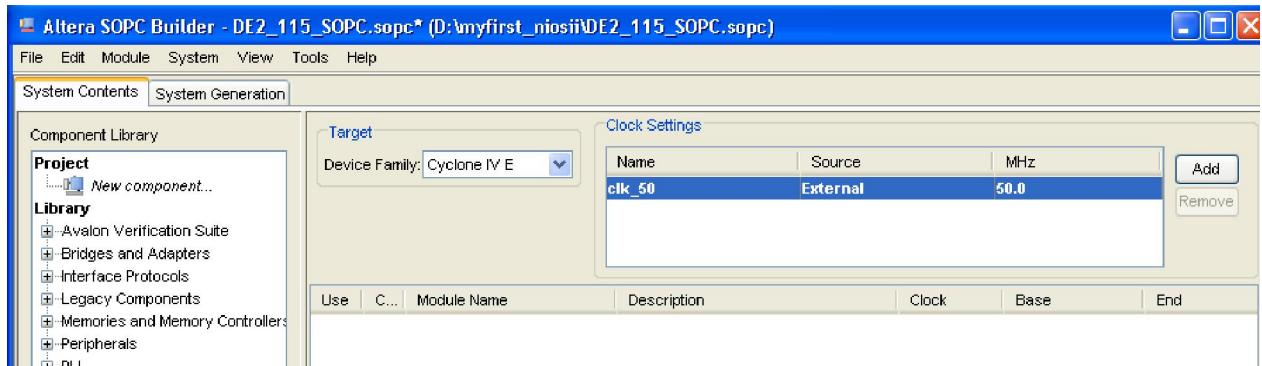

Figure 1-13 Rename Clock Name
7. Click the Name of the Clock Settings table, rename clk_0 to clk_50. Press Enter to complete the update. See Figure 1-13.